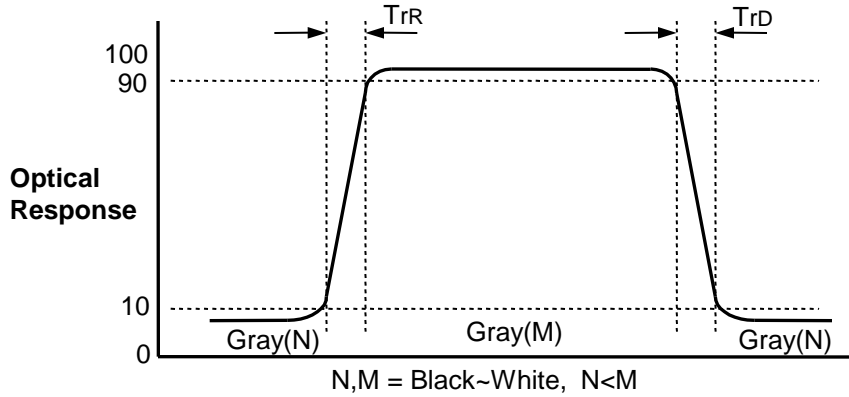

FIG. 3 Response Time
4. Response time is the time required for the display to transition from G(N) to G(M) (Rise Time,  $\text{Tr}_R$ ) and from G(M) to G(N) (Decay Time,  $\text{Tr}_D$ ). For additional information see the FIG. 3. (N<M)